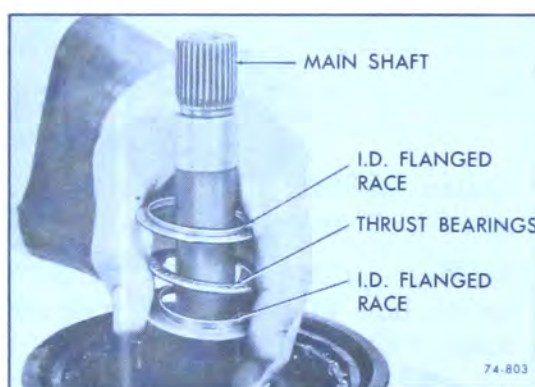

Figure 74-561
3. Remove center support to sun gear races and thrust bearing. See Figure 74-561.